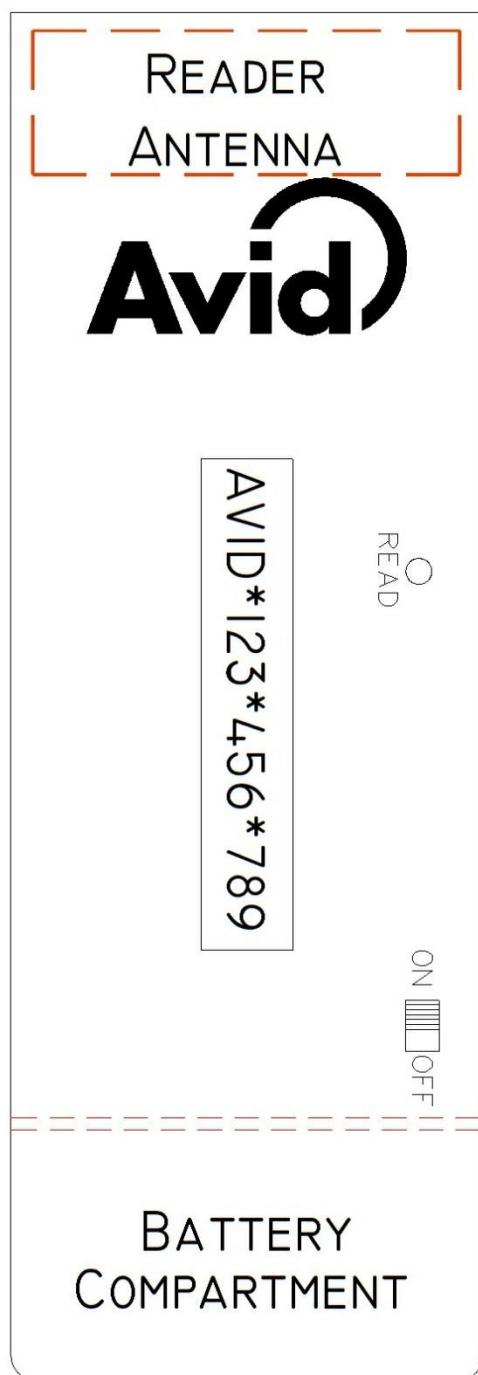

Figure 1
- To turn the reader OFF, slide the button back. (See Figure 1 right.)
Press the upper right button (marked "READ") on the reader to put the reader into the **LOOKING** mode. (See Figure 1 right.)